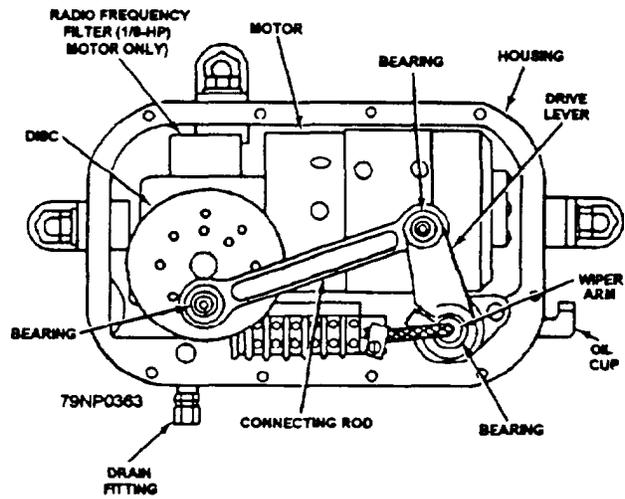

Figure 5-15.—Drive unit.
2. Drive unit (fig. 5-15). The drive unit consists of a dc motor and a drive mechanism, which converts the rotary motion of the drive motor to a back-and-forth motion necessary for wiper operation.